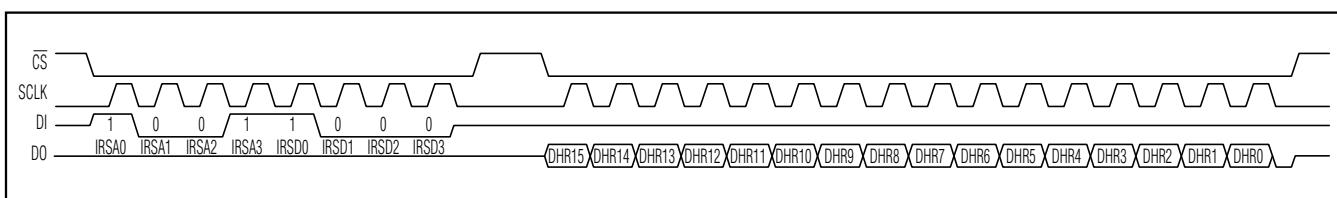

Figure 10. 3-Wire Mode Data Read from DHR Register
When the MAX1464 serial interface is configured in 3-wire mode, the 16-bit DHR data is read out immediately following the command for 3-wire mode enable. Figure 10 shows the 3-wire enable command (IRS[7:0] = 19h) clocked into DI with a subsequent 16-bit read of DHR on DO. DO remains in high impedance (tri-state) until the 3-wire enable command is received. Then DO goes into low-impedance drive mode during the next low cycle of CS. As SCLK is clocked 16 times, the data in DHR is clocked out at DO. The 3-wire enable command is the command that sets the MAX1464 ready for output on DO on the next low cycle of CS. Following the DHR output on the low cycle of CS, the DO line returns to high-impedance state until the next 3-wire enable command is received. The MAX1464 can receive an indefinite number of inputs to DI without the need for a 3-wire enable command to be received.
- 5) If the interface is configured in 3-wire mode, send 19 to enable DO on the next $\overline{\text{CS}}$ cycle. Then tristate the DI driver, and send 16 SCLK pulses on the following CS cycle, and DO outputs DHR[15:0]. The FLASH data is present at DHR[7:0]. See Figure 10 for details.